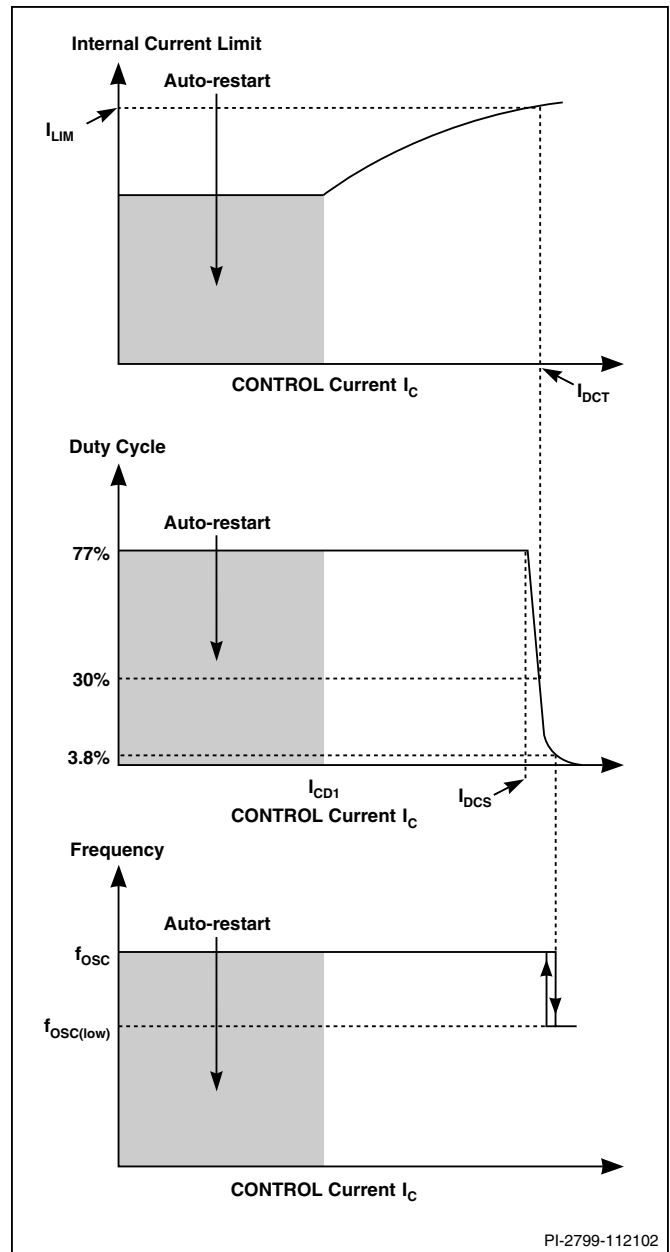
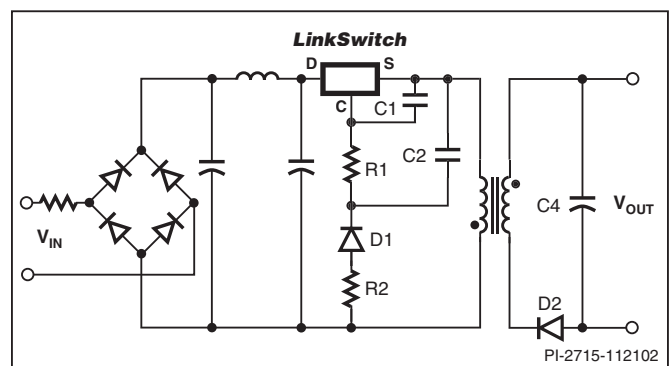
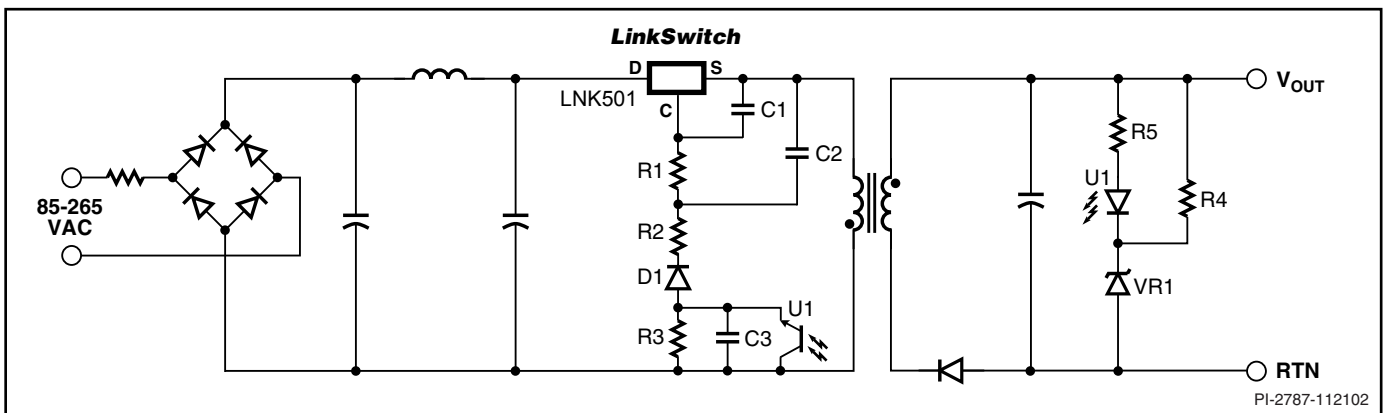

Figure 4. CONTROL Characteristics.
Figure 5. Power Supply Outline Schematic.
Figure 6. Power Supply Outline Schematic with Optocoupler Feedback.
The duty cycle, current limit and operating frequency relationships with CONTROL pin current are shown in Figure 4. Figure 5 shows a typical power supply outline schematic which is used below to describe the *LinkSwitch* operation.
During power up, as V_{IN} is first applied (Figure 5), the CONTROL pin capacitor C1 is charged through a switched high voltage current source connected internally between the DRAIN and CONTROL pins (see Figure 2). When the CONTROL pin voltage reaches approximately 5.6 V relative to the SOURCE pin, the high voltage current source is turned off, the internal control circuitry is activated and the high voltage internal MOSFET starts to switch. At this point, the charge stored on C1 is used to supply the internal consumption of the chip.
As the output voltage, and therefore the reflected voltage across the primary transformer winding ramp up, the feedback CONTROL current I_C increases. As shown in Figure 4, the internal current limit increases with I_C and reaches I_{LIM} when I_C is equal to I_{DCT} . The internal current limit vs. I_C characteristic is designed to provide an approximately constant power supply output current as the power supply output voltage rises.
When I_C exceeds I_{DCS} , typically 2 mA (Figure 4), the maximum duty cycle is reduced. At a value of I_C that depends on power supply input voltage, the duty cycle control limits *LinkSwitch* peak current below the internal current limit value. At this point the power supply transitions from CC to CV operation. With minimum input voltage in a typical universal input design, this transition occurs at approximately 30% duty cycle. Resistor R1 (Figure 5) is therefore initially selected to conduct a value of I_C approximately equal to I_{DCT} when V_{OUT} is at the desired value at the minimum power supply input voltage. The final choice of R1 is made when the rest of the circuit design is complete. When the duty cycle drops below approximately 4%, the frequency is reduced, which reduces energy consumption under light load conditions.
Figure 6 shows a typical power supply outline schematic using *LinkSwitch* with optocoupler feedback to improve output voltage regulation. On the primary side, the schematic differs
from Figure 5 by the addition of R3, C3 and optocoupler U1. Resistor R3 forms a potential divider with R1 to limit the U1 collector emitter voltage.
The feedback configuration in Figure 6 is simply a resistive divider made up of R1 and R3 with D1, R2, C1 and C2 rectifying, filtering and smoothing the primary winding voltage signal. The optocoupler therefore effectively adjusts the resistor divider ratio to control the DC voltage across R1 and therefore, the feedback current received by the *LinkSwitch* CONTROL pin.
When the power supply operates in the constant current (CC) region, for example when charging a battery, the output voltage is below the voltage feedback threshold defined by U1 and VR1 and the optocoupler is fully off. In this region, the circuit behaves exactly as previously described with reference to Figure 5 where the reflected voltage increases with increasing output voltage and the *LinkSwitch* internal current limit is adjusted to provide an approximate CC output characteristic. Note that for similar output characteristics in the CC region, the value of R1 in Figure 5 will be equal to the value of R1+R3 in Figure 6.
When the output reaches the voltage feedback threshold set by U1 and VR1, the optocoupler turns on. Any further increase in the power supply output voltage results in the U1 transistor current increasing, which increases the percentage of the reflected voltage appearing across R1. The resulting increase in the *LinkSwitch* CONTROL current reduces the duty cycle according to Figure 4 and therefore, maintains the output voltage regulation.
The extent to which R3 can be increased is limited by opto transistor voltage and dissipation ratings and should be fully tested before finalizing a design. The values of C2 and C3 are less important other than to make sure they are large enough to have very little influence on the impedance of the voltage division circuit set up by R1, R3 and U1 at the switching frequency. Normally, the values of C2 and C3 in Figure 6 are chosen equal to the value of C2 in Figure 5, though the voltage rating may be reduced depending on the relative values of R1 and R2 discussed above. See Applications section for typical values of components.
The output voltage load variation can be improved across the whole load range by adding an optocoupler and secondary reference (Figure 6). The secondary reference is designed to only provide feedback above the normal peak power point voltage to maintain the correct constant current characteristic.
The schematic shown in Figure 5 outlines the key components needed for a *LinkSwitch* supply.
Since the SOURCE pins in a *LinkSwitch* supply are switching nodes, the copper area connected to SOURCE together with C1, C2 and R1 (Figure 5) should be minimized, within the thermal constraints of the design, to reduce EMI coupling.